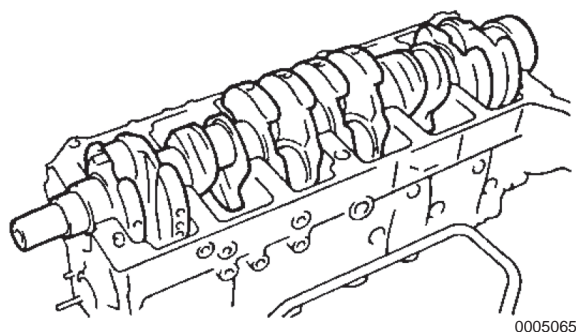

Figure 5-142
4. Place the crankshaft on the cylinder block (**Figure 5-142**).